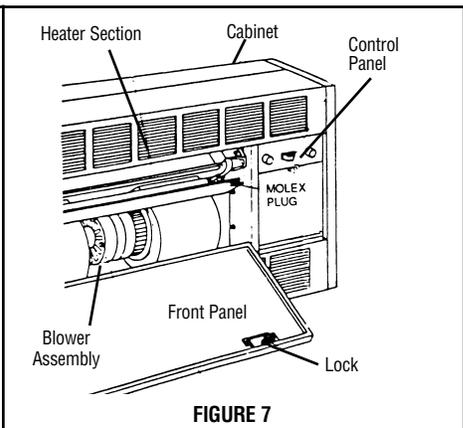

FIGURE 7
3. If heat sections need servicing, they can easily be removed by removing screws as illustrated in Figure 7. The complete heat section assembly then slides out, after all wires into the terminal block are removed. Care must be taken to assure that all wires are replaced in the correct terminal block, per wire numbering or coding. The limit control and elements can be readily serviced when the heat section is removed.